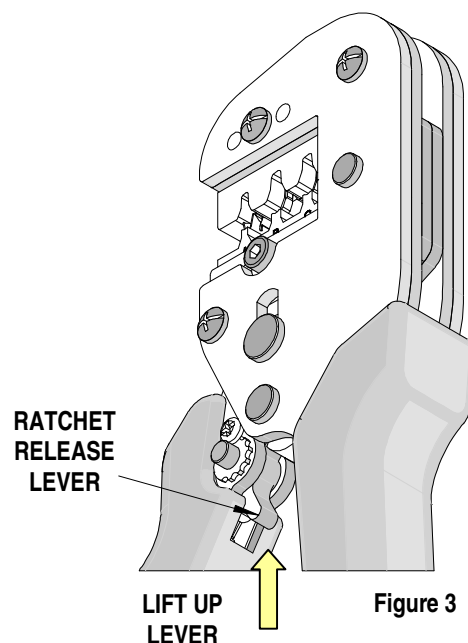

Figure 3
5. While holding the wire in place, slowly close the handles of the tool. If a jam occurs, stop closing the tool and release the anti-backup ratchet by lifting up the lever near the top of the moving handle. See Figure 3.
3. Make certain all pins; pivot points and bearing surfaces are protected with a thin coat of high quality machine oil. Do not oil excessively. Light oil (such as SAE30W oil) applied at the oil points, shown in Figure 3, every 5,000 crimps or 3 months, is recommended.